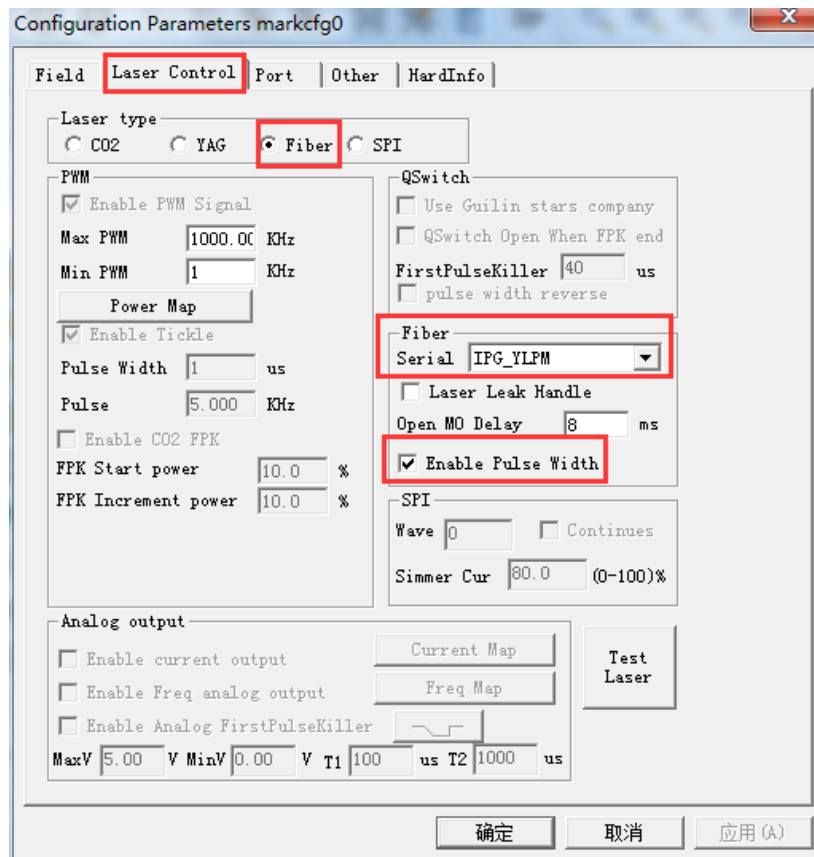

Figure 3
(4) Click Param (F3) and select Configuration Parameters, as shown in Figure 3. Enter Laser Control property page. Select Fiber for Laser Type and IPG_YLPM for Fiber Serial, check Enable Pulse Width, and click confirm.